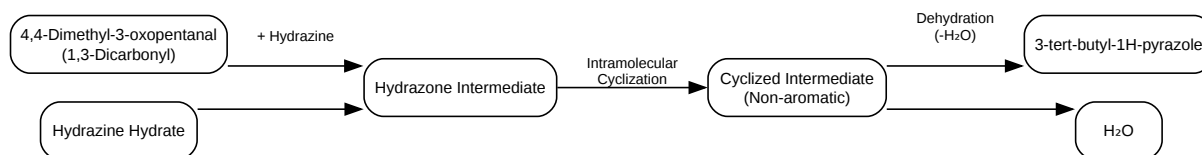

Fig. 1: Knorr Pyrazole Synthesis Mechanism
Caption: Fig. 1: Knorr Pyrazole Synthesis Mechanism
- Hydrazone Intermediate: The most common intermediate is the uncyclized hydrazone (see Fig. 1). This species will have a different polarity than the starting material and the final pyrazole product and will appear as a distinct spot. Kinetic studies have shown that intermediates can be observed, especially in the early stages of the reaction.^[2]